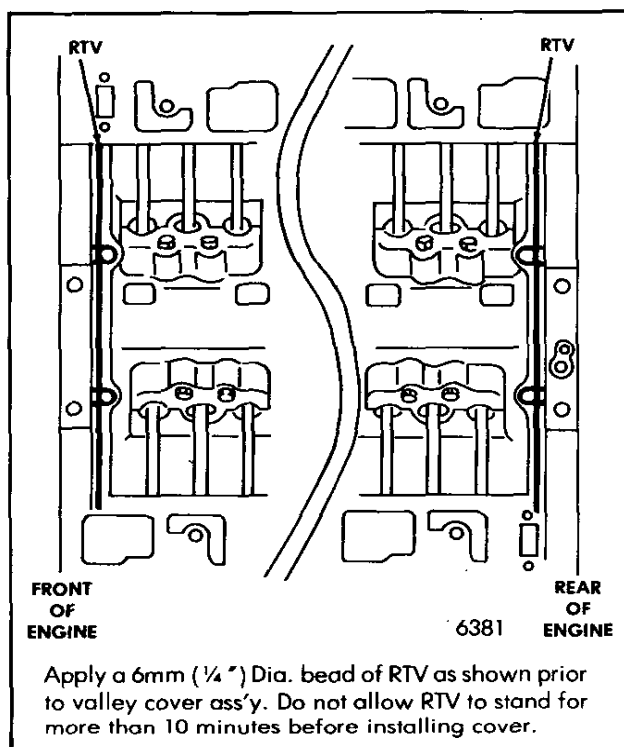

Fig. 11 - RTV Locations
2. Apply Room Temperature Vulcanizer (RTV) sealer or equivalent (Fig. 11).